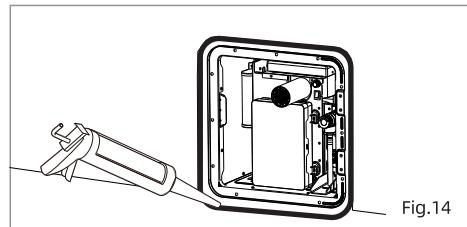

Fig.14
3. Apply a liberal amount of sealant around the door frame to fill any gaps to the RV wall. (Fig.14) Wipe any excess sealant.